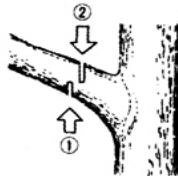

Fig. 16
- **TREE PRUNING:** Start cutting from the bottom and finish from the top (Fig. 16).